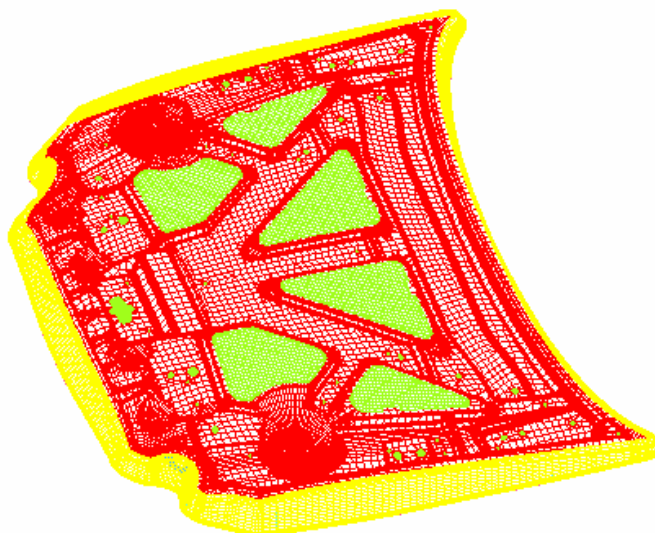

Figure 38 Generation of addendum
4. The addendum has been generated, as illustrated in Figure 38.